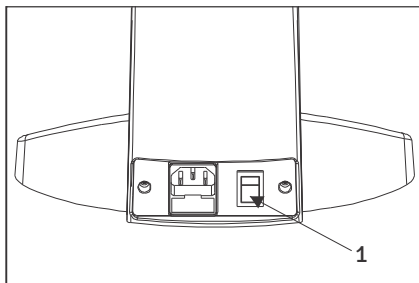

Fig. 15
1. Flip the main switch to “I” (ON) as shown in figure 15.